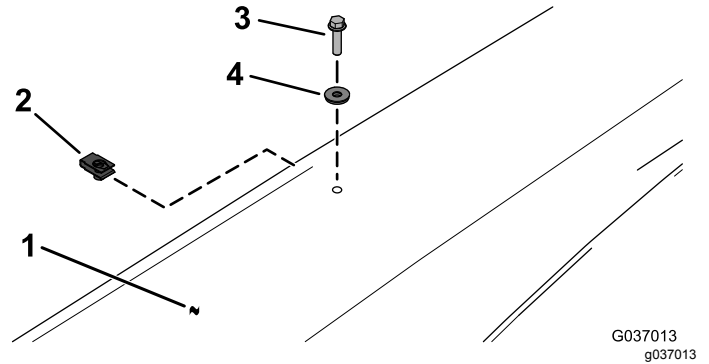

Figure 14
16. Install the sunshade to the roof-support bracket using 2 clips, 2 sealing washers, and 2 hex-flange bolts (1/4 x 1 inch) as shown in Figure 14.